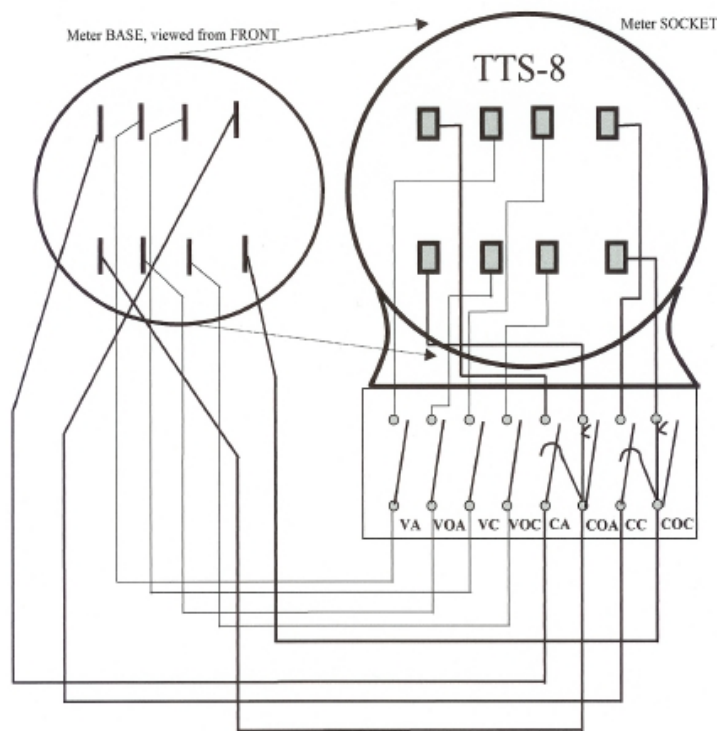

Fig. 1
4. Insert the 3-Phase Test Switch Current Direct Probes into the current return of the test switch according to the wiring diagram shown in "Fig. 1" (COA=red, COC=yellow). For safety, shunt the CT currents (CA, CC) *before* inserting the probes. After insertion, re-engage the CT currents.